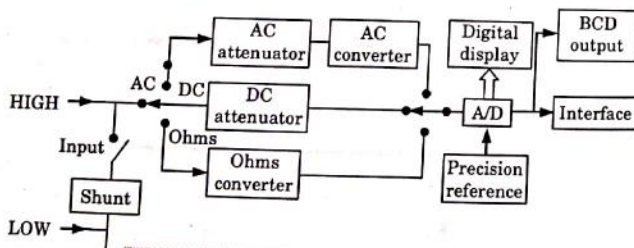

Fig. 4.19.1. Basic scheme of digital multimeter.
2. The basic circuit of a digital multimeter is always a DC voltmeter as shown in Fig. 4.19.1.